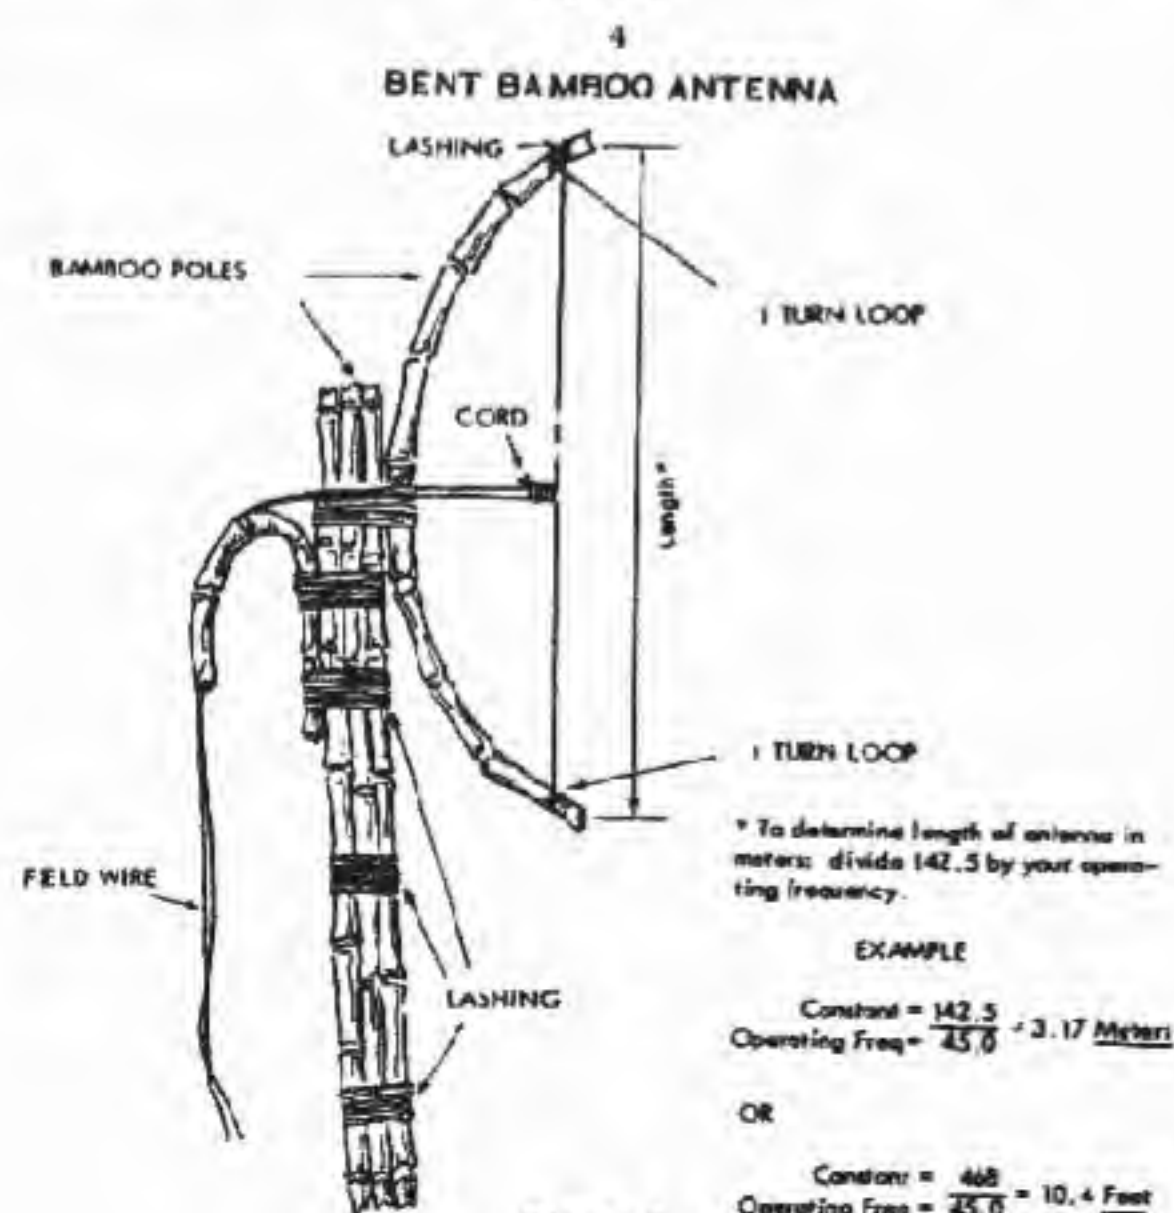

Figure 3
4. Bent Bamboo Antenna (See Figure 3)